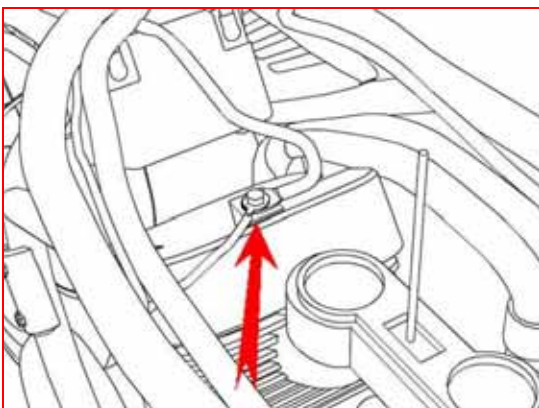

Fig 16
16. Connect the TFI ground wire to the battery negative cable as shown (See figure 16)